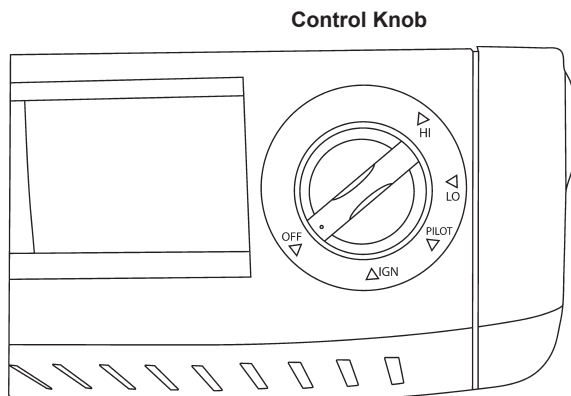

Figure 16
3. Push in gas control knob and slightly turn clockwise to the OFF position (see figure 16).
4. Wait five (5) minutes. Then smell for gas, including near the floor. If you smell gas, **STOP!** Follow "B" in the safety information above. If you do not smell gas, go to the next step.
5. Push in gas control knob slightly and turn counterclockwise to PILOT/IGN and depress for five (5) seconds.